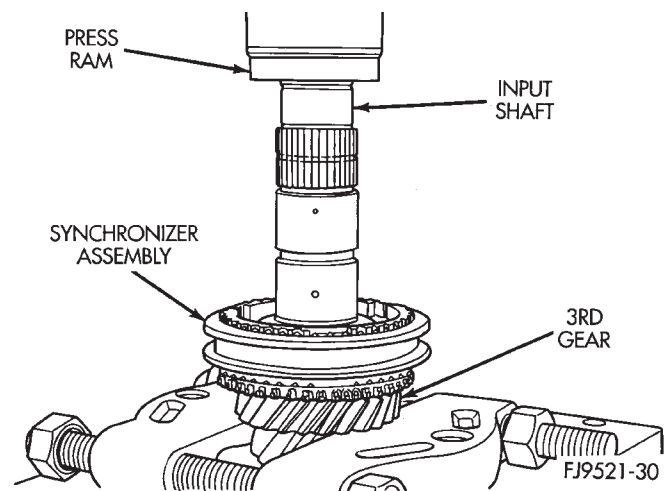

Fig. 97 3rd Gear Removal
(10) Install input shaft in shop press. Using bearing splitter, remove 3-4 synchronizer and 3rd gear (Fig. 97).